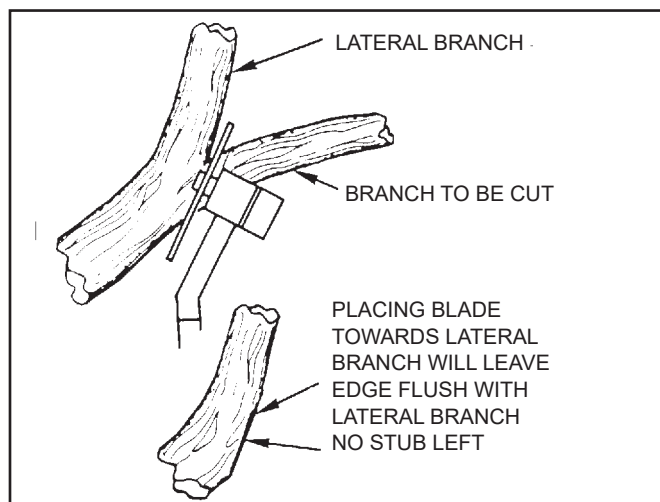

Figure 4. Flush Cutting a Limb That Might Split or Tear.
7. In sawing limbs which have a tendency to split or tear when making a single saw flush cut, Figure 4, it is advisable to make more than one cut. The first cut